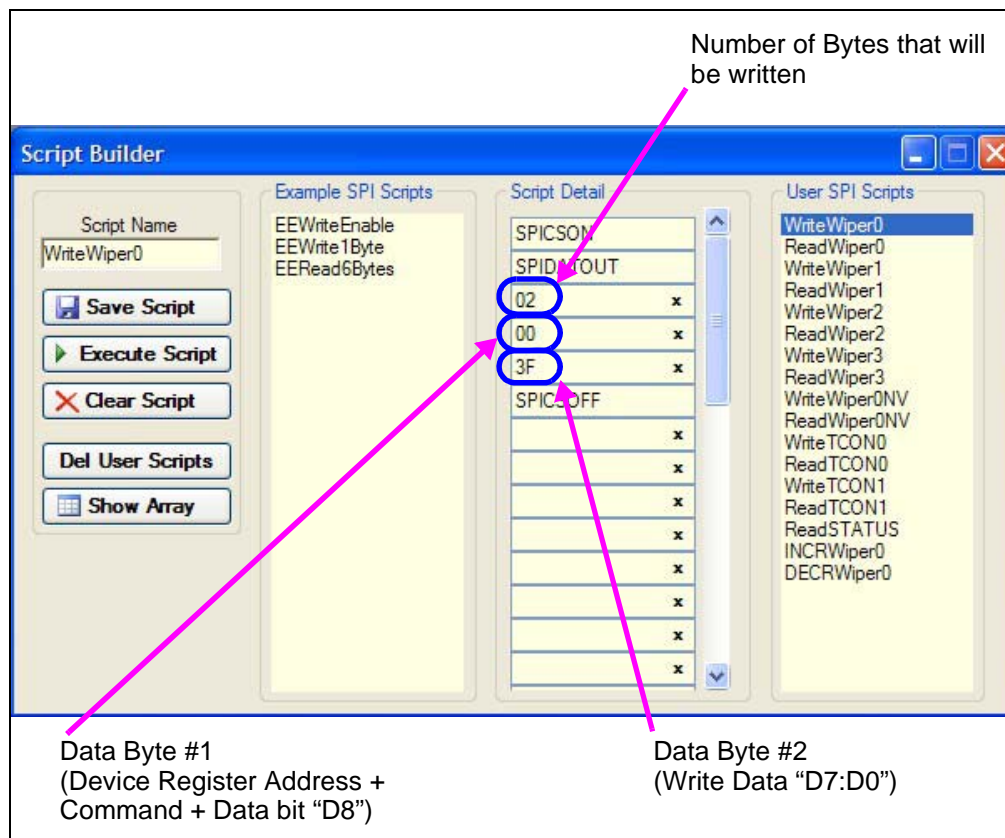

FIGURE 2-10: Example Write Script.
Double clicking on the WriteWiper0 User SPI Script will load the Script Details. Figure 2-10 shows what the values mean in the Script Details. These values are hex numbers.
9. Double click on the “WriteWiper0” script in the “Example SPI Scripts” column. This loads the Script Detail column (see Figure 2-10).